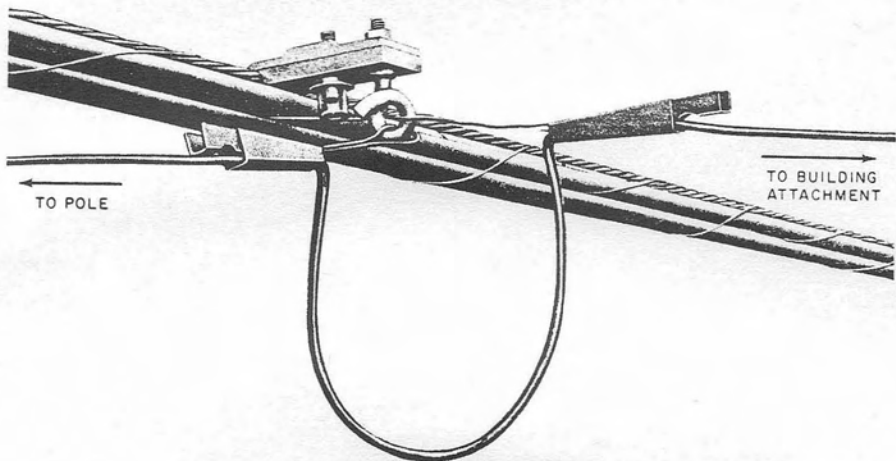

Fig. 33—Completed F Span Clamp Installation
(12) Complete all other pole and building attachments and terminate the drop wire as described in other Sections of the 462 Division. Figure 33 illustrates the completed mid-span clamp attachment. Note the position of the drop wire clamp toward the building. This ensures against accidental disengagement of the drop wire toward the pole. Limit F span clamp attachments to *two* drop wires.